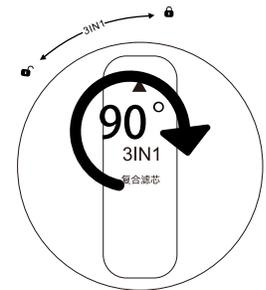

Figure 7
6. Gently press the filter element and rotate it 90° clockwise, ensure the triangle icon on top of filter element is pointed at , See **Figure 7**.